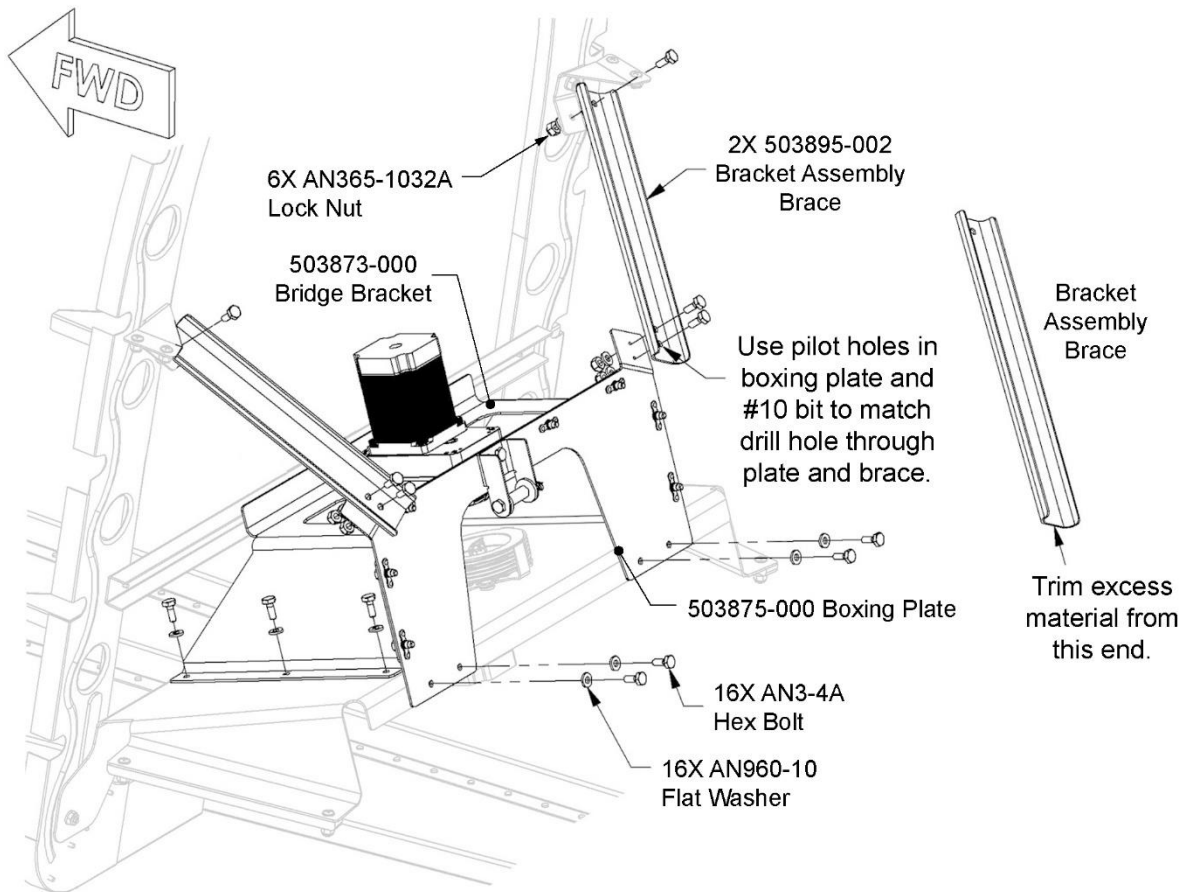

Figure 15: Re-installing Bracket Assembly and New Bracket Assembly Braces
25. If implementing both fixes, install bracket assembly with yaw servo and attach new bracket assembly braces to gussets and boxing plate, as shown in Figure 15, and then complete the remaining steps. Torque fasteners per specifications in AC 43.13-1B, Table 7-1.